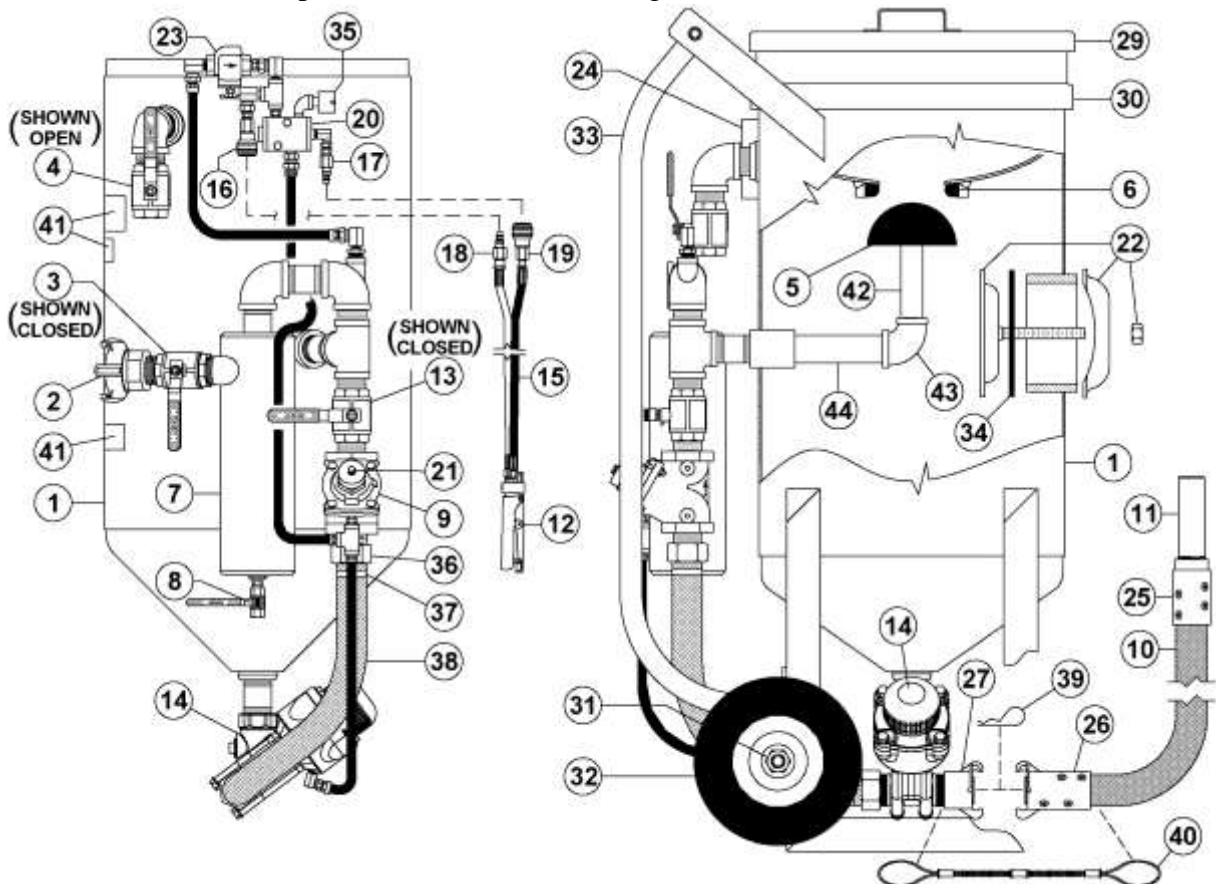

Figure 7.2 – Thompson® Valve Abrasive Blaster with pneumatic deadman controls
7.3 Ending the Blast Operation (See Figure 7.2)